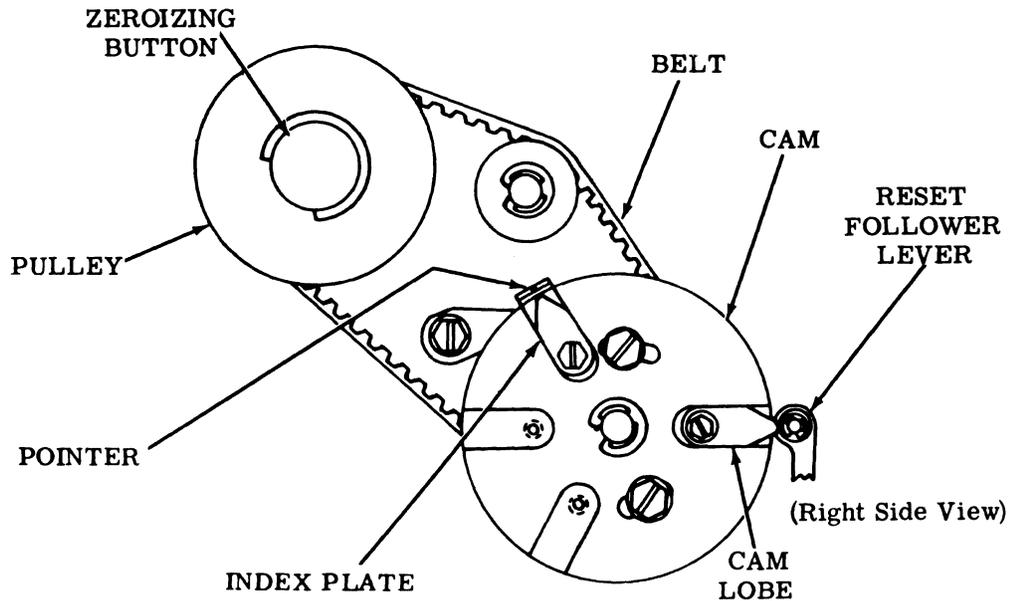

Figure 14 - Zeroizing Position of Platen Drive
3.18 Figure 14 illustrates the zeroizing position of the platen drive mechanism for one cam lobe operation. For platen drive mechanisms using more than one cam lobe, see the CAM ZERO POSITION (Platen Drive Area, Sprocket Feed Mechanism) adjustment in Section 574-122-700TC.